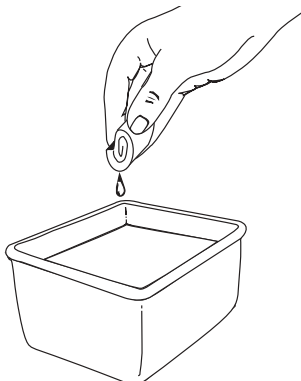

Fig. 21
3. Wash the filter in detergent and water (Fig. 21). Rinse the filter thoroughly and allow it to dry.